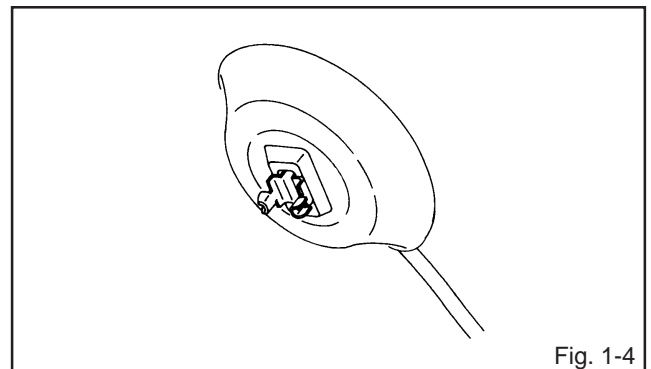

Fig. 1-4
3. Turn over the Rubber Cap. **(Refer to Fig. 1-4.)**